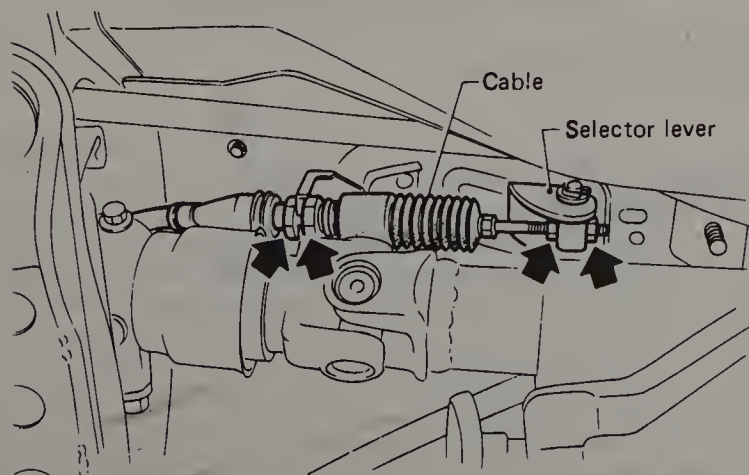

Fig. 13.57 Remove the cable from the selector lever and bracket after loosening the nuts (arrows) (Sec 11)
- 5 Disconnect the cable from the selector lever (Fig. 13.57).